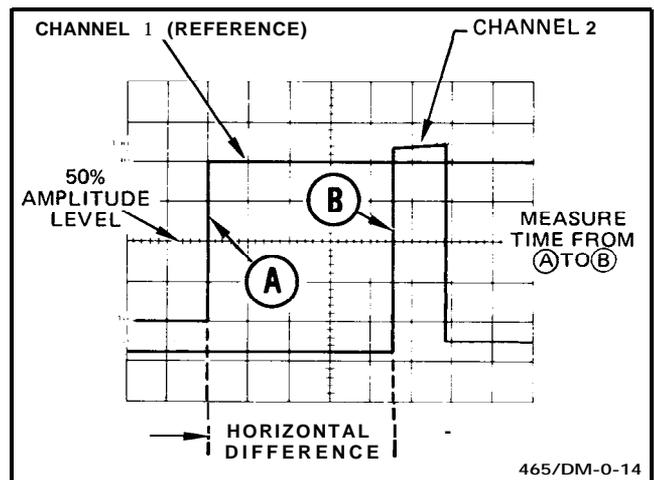

Figure 17. Time difference between two time-related pulses.
9. Set the SEC/DIV switch to a sweep speed which provides three or more divisions of horizontal separation between the reference points on the two displays. Center each of the displays vertically (see Figure 17).